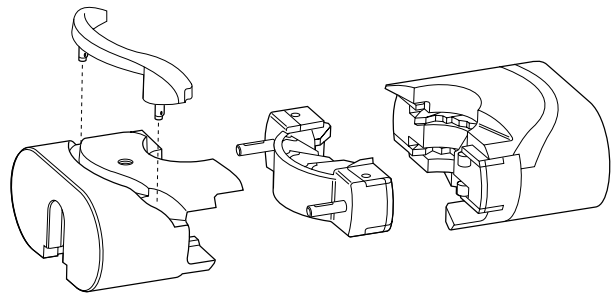

Figure WC-6: Variable bore rams. IADC drawing.
- Variable bore rams: Sealing element is much more complex and allows for sealing around a particular range of pipe sizes (**Figure WC-6**);